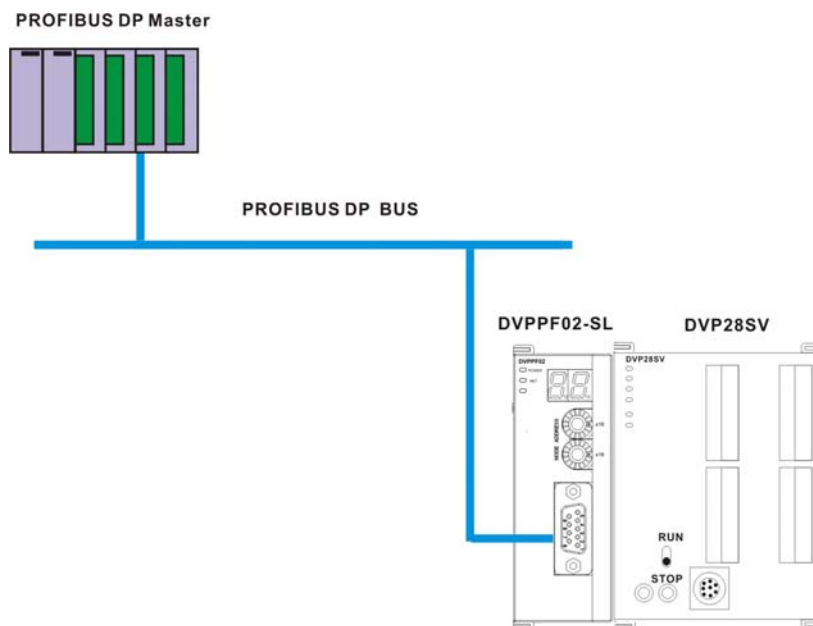

Figure 10-1
1. The Siemens S7-300 PLC is the PROFIBUS DP master and DVPPF02-SL the slave. See Figure 10-1 for the network structure.